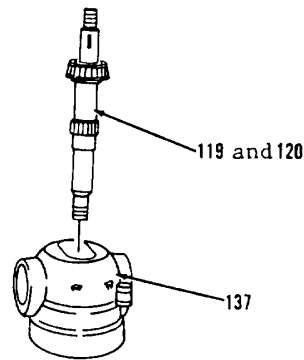

Figure 10-39.
39. Install items 120 and 119 as an assembly in barrel (138, Figure 10-39).